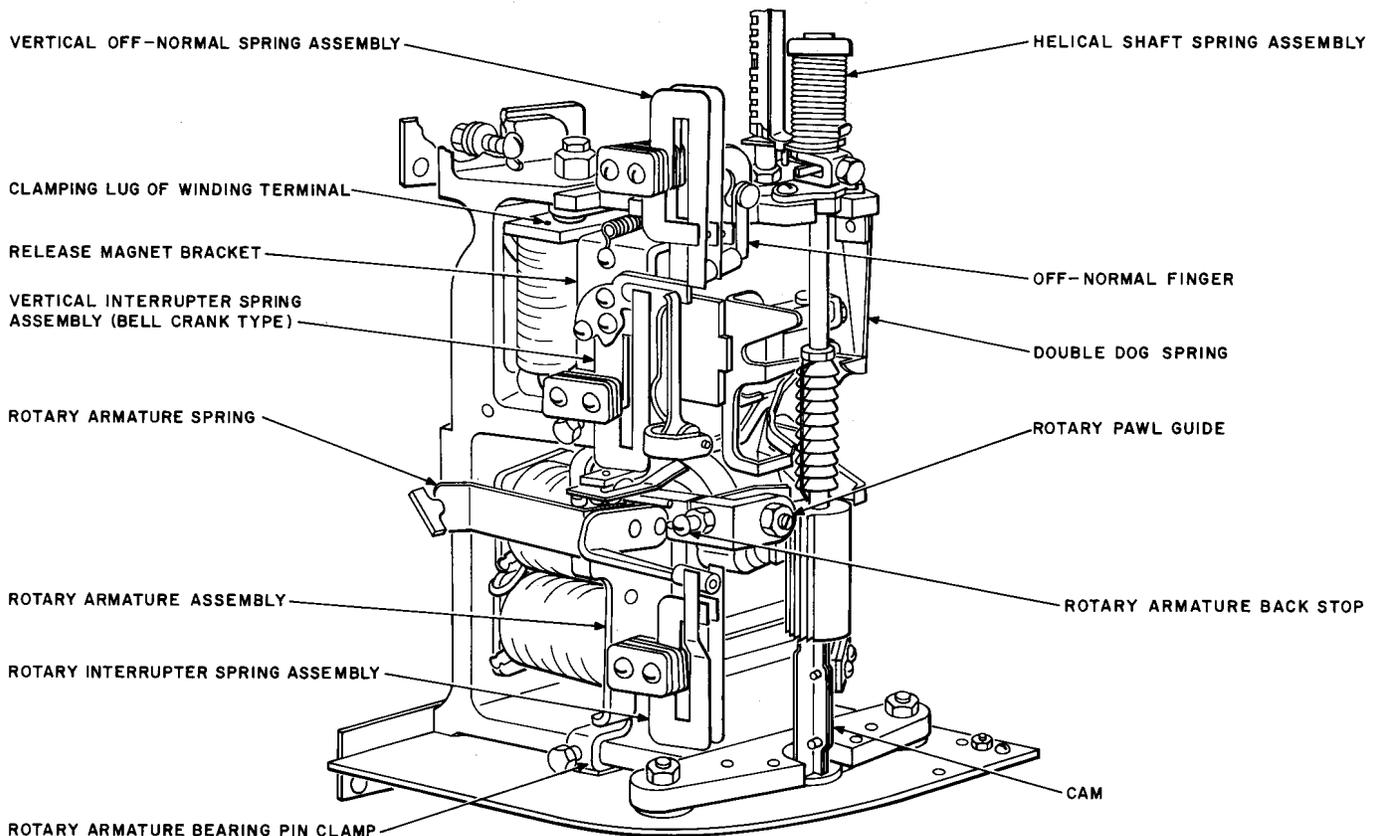

Fig. 19—Parts of 197-Type Switch as Viewed From the Left Side
ROTARY MECHANISM AND ASSOCIATED PARTS (Fig. 19 and 20)
- (1) To replace the release magnet bracket, remove the release armature as described in 3.23(1) and remove the release link as described in 3.25. On switches equipped with a bell crank operated vertical interrupter spring assembly per Fig. 19, remove the screws which hold the spring assembly bracket to the release magnet bracket with the 3-inch C screwdriver and remove the spring assembly. Remove the screw which holds the magnet to the magnet bracket with the 4-inch E screwdriver. When replacing the release magnet bracket on switches having a cover stud mounted in place of the left magnet mounting screw, mount the cover stud in place of the bracket mounting screw to the right of the shaft. On switches equipped with the type vertical interrupter spring assembly per Fig. 5 and 6, remove the screws which mount this assembly using the 4-inch E screwdriver. This will permit the assembly to be moved away from the switch sufficiently to permit the withdrawal of the magnet bracket.
- (2) Remove the screw at the bottom of the magnet bracket with the 4-inch E screwdriver.